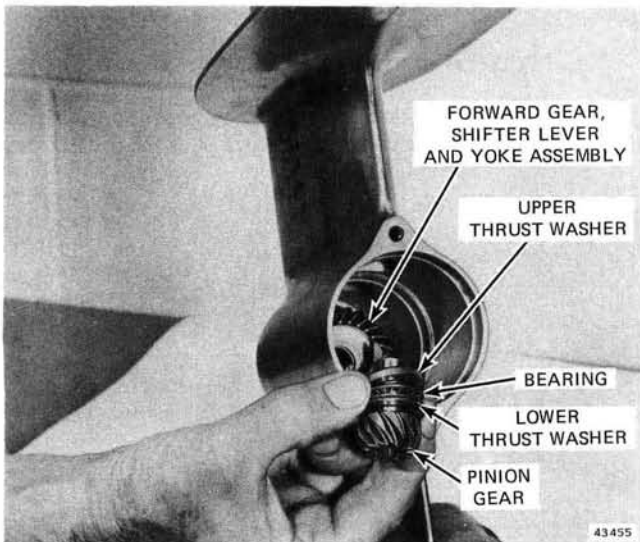

Figure 6-29. Removing Pinion Gear, Bearing and Thrust Washers
8. Remove clutch dog, pinion gear, lower thrust washer, pinion bearing, and upper thrust washer from gearcase. See Figures 6-29 and 6-29A.
9. Remove forward gear, shifter lever yoke assembly, and bearing from gearcase. Shifter lever and yoke are serviced as an assembly. See Figures 6-29 and 6-29A.